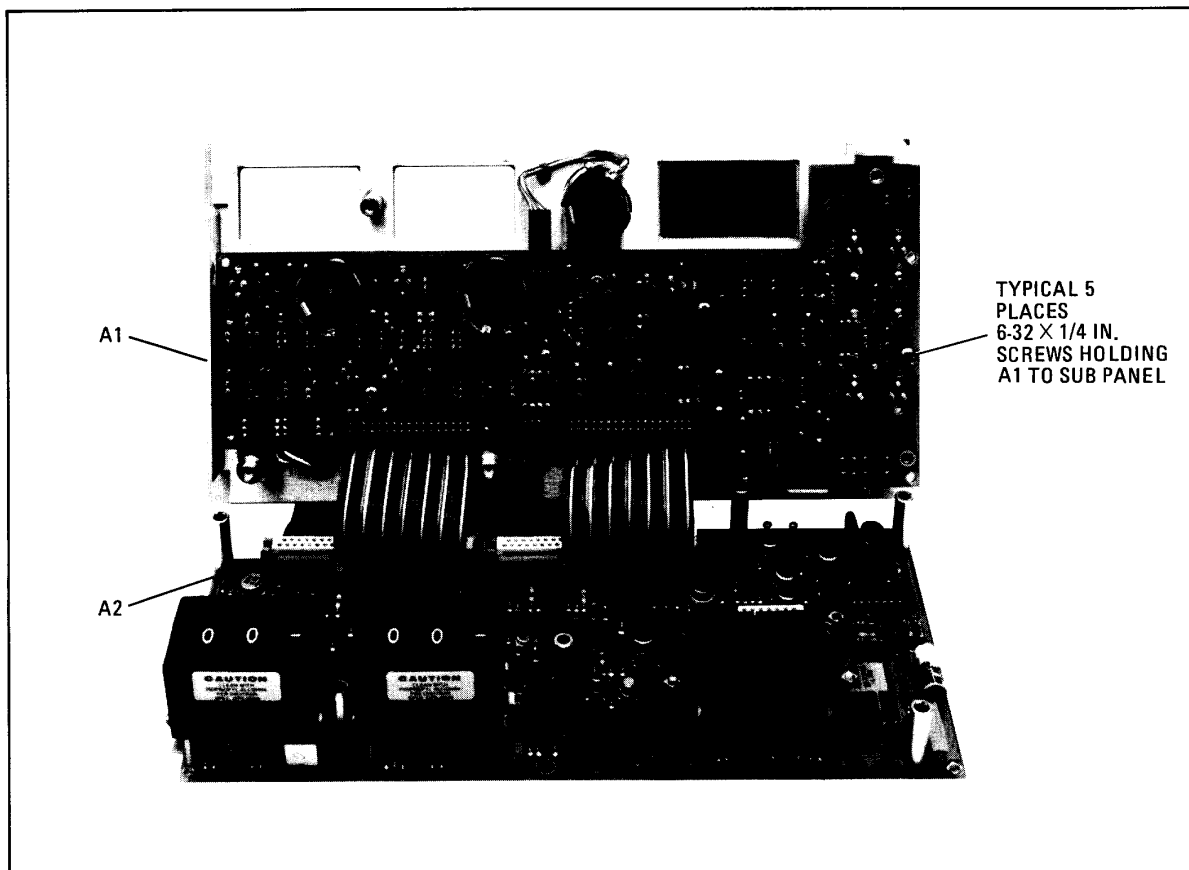

Figure 8-114. Front Panel Assembly With A1 and A2 Separated
4. Separate A2 Analog Processor from A1 Front Panel board as shown in Figure 8-114. (A1 and A2 will still be connected by the ribbon cables.)
5. Remove five 6-32 x 1-1/4 Pozi-Driv screws securing A1 Front Panel to sub-panel. (See Figure 8-114.)
4. Install A1 Front Panel Board Assembly on front panel sub-panel. Install five 6-32 x 1/4 inch Pozi-Driv screws to secure A1 board to front sub-panel. (See Figure 8-114.)